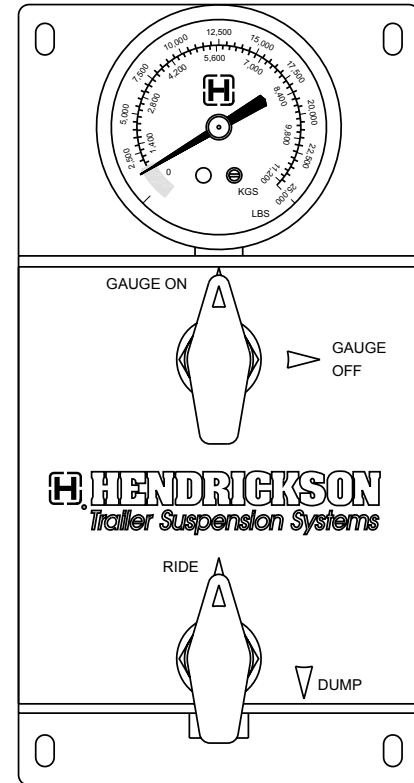

Figure 1. Gage valve to GAUGE ON position
3. Rotate the upper ball valve counterclockwise to the GAGE ON position (Figure 1).